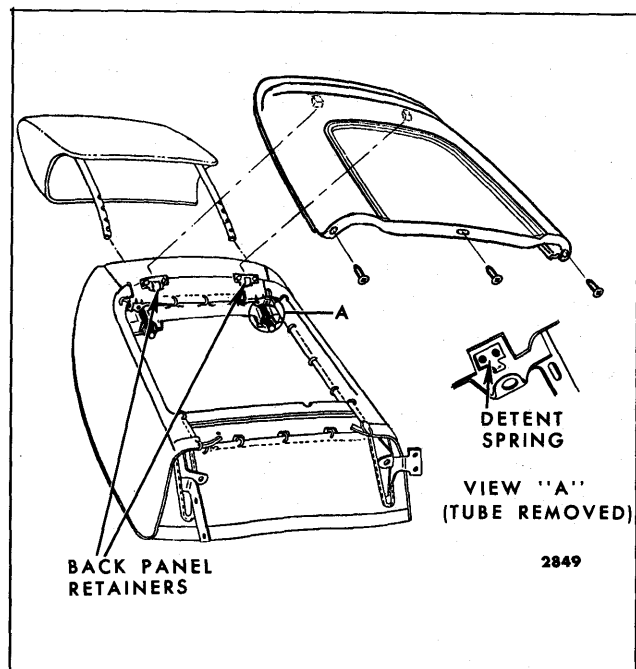

Fig. 15-35—Strato Seat Back Panel and Head Restraint
2. Remove three screws securing bottom of seat back panel to seat back frame (Fig. 15-35).
With guide tube removed, detent spring may be removed (See Fig. 15-35).